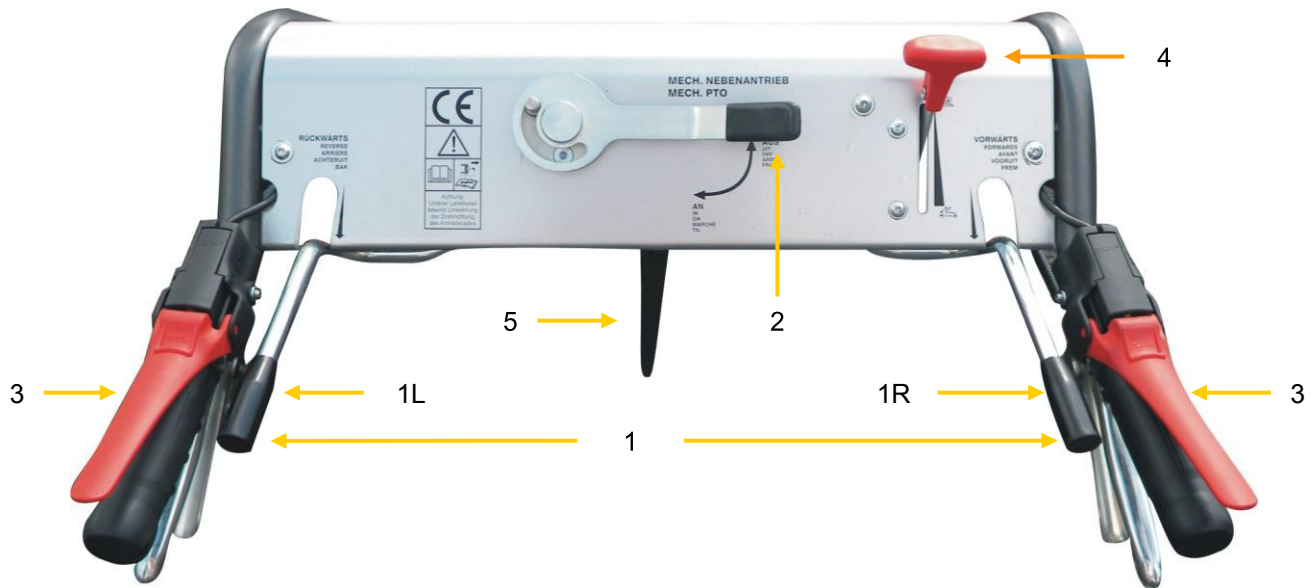
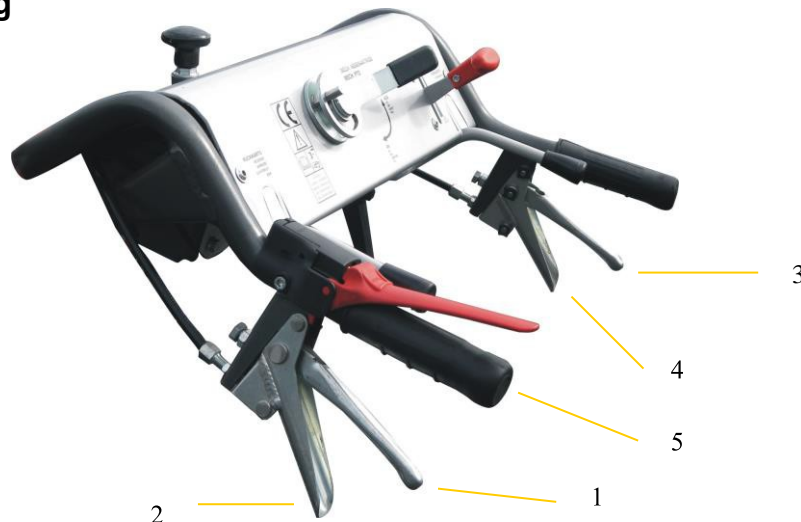

Figure 7.1
Figure 7.2
- To start the engine, the drive lever (Fig.7.1, item 1) must be in the horizontal position and the PTO lever (Fig.7.1, item 2) must be in the "off" position.
- During the starting process it is forbidden to operate the deadman switch (Fig.7.1;
- Press the throttle lever (Fig.7.1, item 4) about 1/3.
- Press the deadman switch (Fig.7.1, Pos.3) down and keep it pressed.
- On both sides of the handlebar there is a driving lever (Fig.7.1, Pos.1L and 1R), which are connected by a common pivot point and thus form a common driving lever (Fig.7.1, Pos.1). When a drive lever is actuated, the opposite drive lever performs an opposite movement, so that the operation of the drive lever is similar to a rocker.
- For forward driving, the right hand drive lever (Fig.7.1, item 1R) is pressed down by the right thumb. The more the drive lever is pressed down, the faster the machine moves. In order to reduce the speed or to stop the machine, push down the raised lever (Fig.7.1, item 1L) with your left thumb.
- If the individual drive levers (Fig.7.1, items 1L and 1R) are at the same height or in a horizontal position, the machine is stationary.
- For the reverse drive, the left driving lever (Fig.7.1, item 1L) is pressed down by the left thumb. The
more the drive lever is pressed down, the faster the machine moves. In order to reduce the speed or to stop the machine, push down the lever swung upwards (Fig.7.1, item 1R) with your right thumb.
- The force that needs to be applied with the thumb to operate the control lever can be adjusted to the conditions of use. For light maintenance work, the brake resistor for the self-holding of the driving lever may be smaller than, for example, when mowing on a slope. If the frictional resistance is too small, then the driving lever retracts itself in the direction of the neutral position. The lever to set the correct braking resistor is located in the center and below the control panel (see Fig.7.1, item 5).
- Use the throttle lever (Fig.7.1, item 4) to regulate the engine speed and thus also the driving speed. Always try to drive with the lowest speed required, this protects material and the environment.
- The attachment machine is switched to "on" or "off" with the lever (Fig.7.1;
- Before switching off the combustion engine, make sure that the control lever (Fig.7.1, item 1) is in the horizontal position and the PTO lever (Fig.7.1, item 2) is in the "off" position ,
- Move the throttle lever (Fig.7.1, item 6) to neutral and allow the engine to idle for approximately one-half minute.
- As shown in Figure 7.2, a first steering lever (Pos. 1 or Pos. 3) and a second steering lever (Pos. 2 or Pos. 4) are arranged on the control panel on each handle.
- If, for example, a left-hand drive is to be initiated, this can be done by actuating the first steering lever (Fig.7.2, item 1) on the left handgrip (Fig.7.2, item 5). The more the first steering lever is pulled through, the smaller the turning circle becomes, until finally the left wheel is blocked. The right wheel is not affected in this steering maneuver and maintains its speed. If necessary, by moving from the first steering lever to the second steering lever (Fig.7.2, item 2), the left wheel can be moved in the reverse direction, whereby the turning circle can be reduced so that the motor mower rotates about its own axis. There is a proportional behavior in both functions of the steering levers. This means that the further the second steering lever is pulled through, the faster the left wheel turns out of the blocked state in the opposite direction of travel.
- When the two first steering levers (Fig.7.2, Pos.1 and Pos.3) are actuated at the same time, the drive unit stops, while the second steering levers (Fig.7.2, Pos.2 and Pos.4) are in the reverse direction at the same time emotional.
- In emergency situations, the operation of the two first steering levers (Fig.7.2, Pos.1 and Pos.3) can be used to immediately stop the machine. The traction drive itself is switched off by the subsequent actuation of the driving lever (Fig.7.1, item 1) in the horizontal position. Following this, the two steering levers can be released.
- Release the deadman switch (Fig.7.1, item 3). This shuts off the engine and brakes the wheels. At maximum speed, the machine comes to a standstill after a few meters.